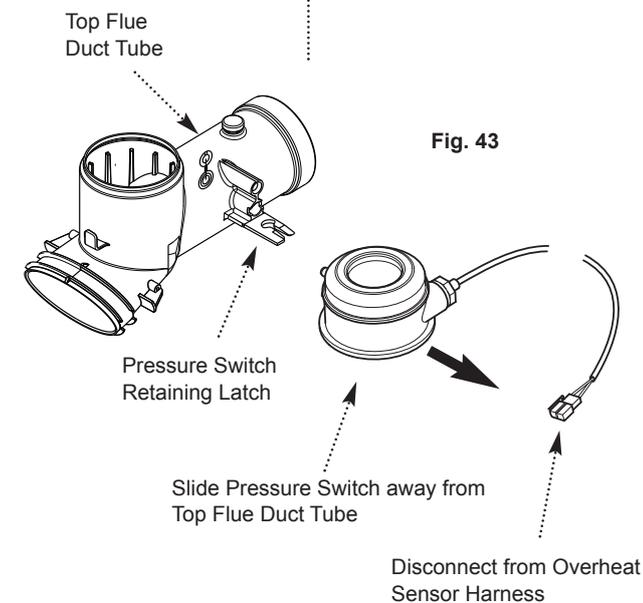

Fig. 43
10.3.5 Pressure Switch (21 & 24 only) (Fig. 43)